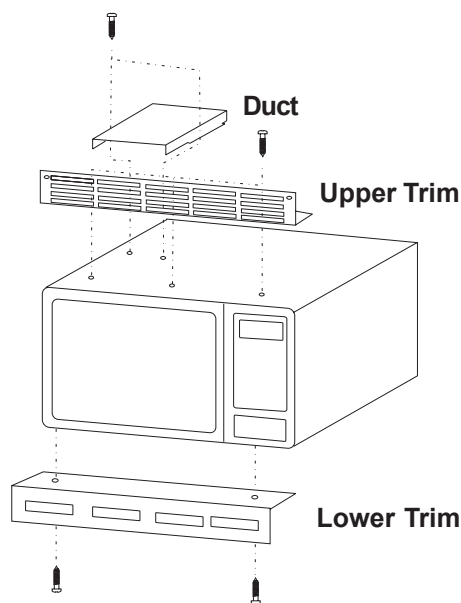

FIG. 4
And then mount the duct on the outer case using two 12mm screws. See FIG. 4.
3. Mount the lower trim on the base plate using two 12mm screws. See FIG. 4.